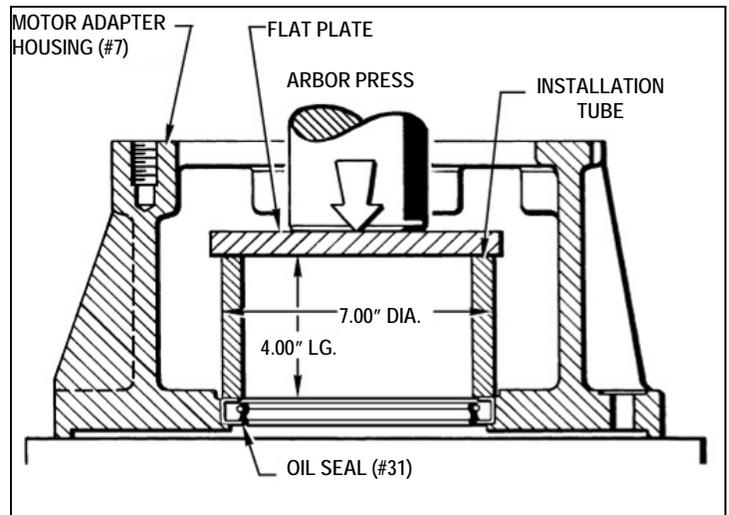

Figure 7.14 - Installing Oil Seal for MSB9 and MSB10
4. Press the new Oil Seal (#31) into the bore with an arbor press as shown in (Figure 7.14).